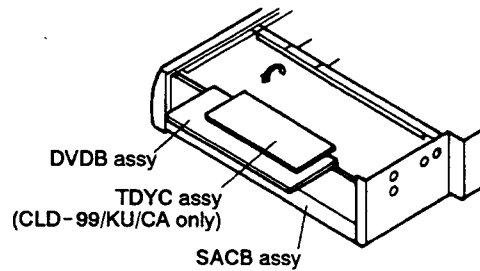

Fig. 9
6. Set the DVDB and TDYC assemblies to the open state. (Fig. 9)